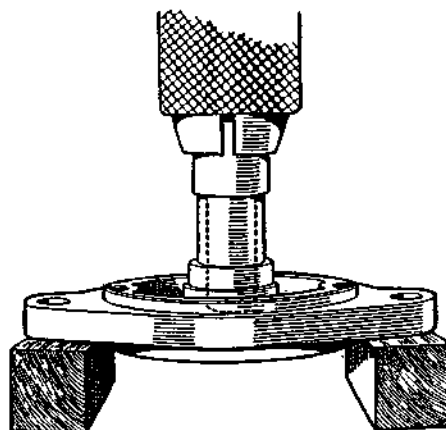

Fig. 9. Method of fitting Bearing Bush.
- (b) Press the new bearing bush into the end bracket using a shouldered mandrel of the same diameter as the shaft which is to fit in the bearing. (See Fig. 9).